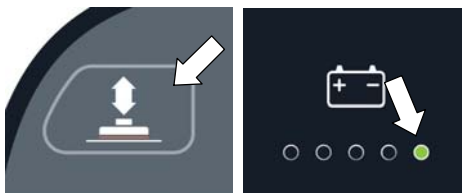

FIG. 133
1. Park the machine on a level surface and turn the key to off (O) position.
2. Press and hold the Down Pressure button while turning the key on. Release button when the far right battery discharge indicator LED turns on (Figure 133).